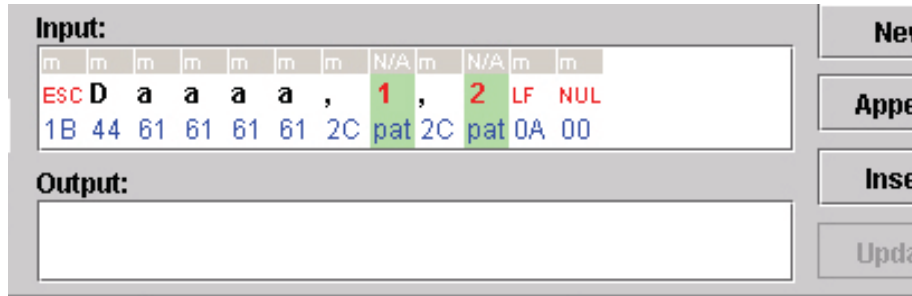

Figure 155 Entering the Input String
25. Press the right arrow key, then the down arrow key and type `0A00` (for LF and NUL). See Figure 155.